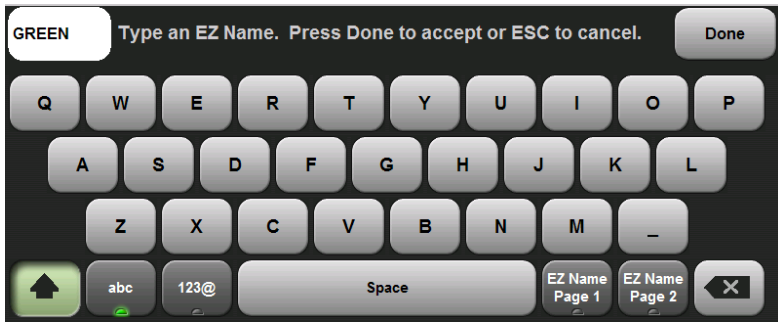

Figure 10-7. Renaming a Matrix Key
1. Press the Rename Keys button shown in Figure 10-6 and select the matrix button to rename. In Figure 10-7 the upper-right button “Color Code” was selected and renamed “GREEN”.